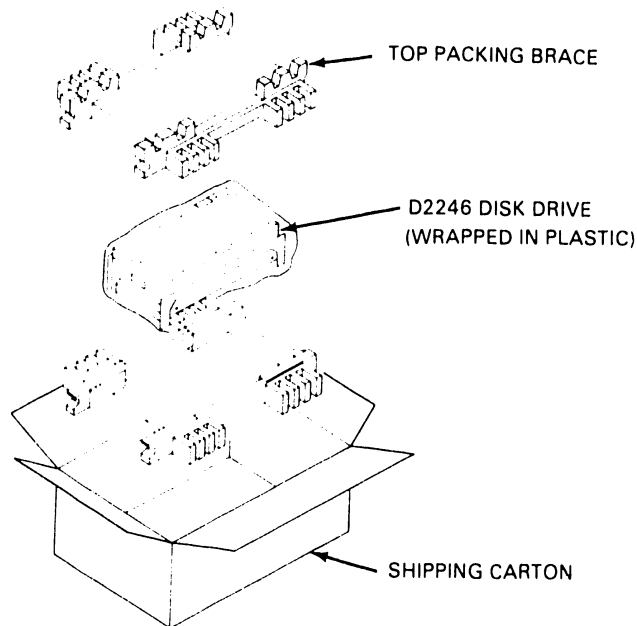

Figure 2-1 D2246 Packaging
2. Remove the top packing brace (see Figure 2-1).